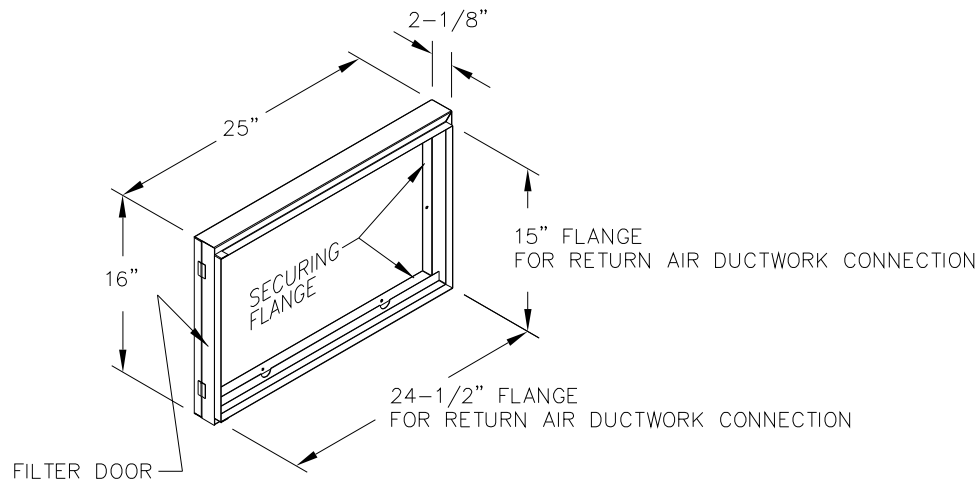

Fig. 10a: A typical filter rack and dimensions for the OH6 furnace.
The filter rack provided with the furnace, refer to Fig. 10a & 10b, will serve as a template to scribe a mark for the return air opening on the casing. Place the filter rack on a side casing approximately one inch up from the bottom of the furnace and centered from side to side. Place the securing flange against the casing when locating the return air opening. For your convenience, (4) locator knockouts have been placed at the proper locations on both the left and right side casings.
Connect the return air plenum to the filter rack and slide the filter into place. Dimensions for adapting the return air plenum to the filter rack are provided (See Fig. 10a & 10b).